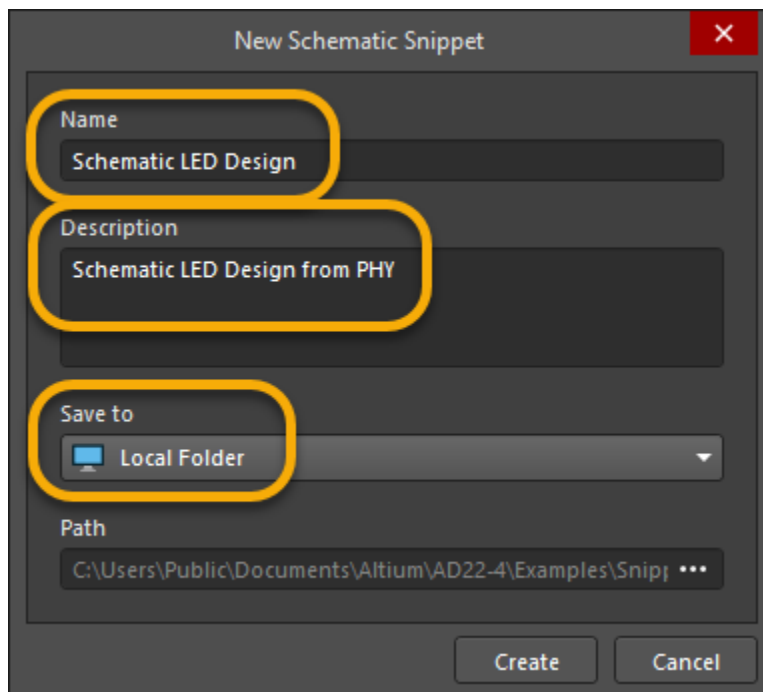

Figure 3. Creating New Snippets
- Change the name to `Schematic LED Design`, as shown in Figure 3.